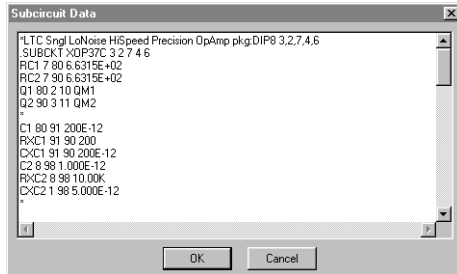

Figure 17.14. Use this dialog box to edit or view an existing subcircuit.
- 2 Click **Edit** to display the dialog box in Figure 17.14.